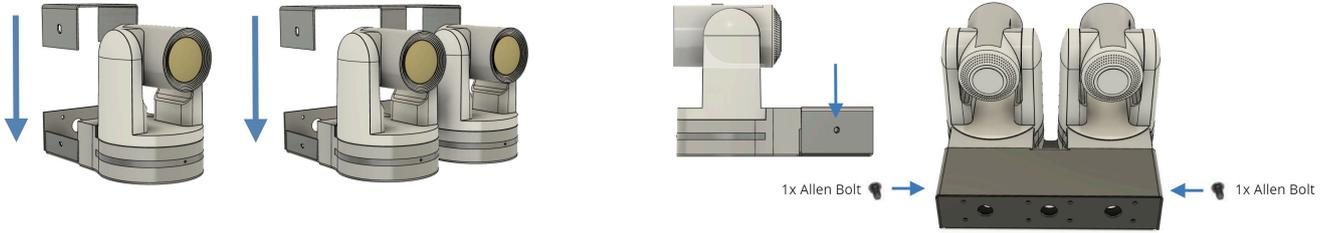

Figure 5: Cover Cap
4. Put the cable cover over the back of the bracket, neatly concealing the cables and connectors of the camera. Note that the MT220 have a bigger cover than you can see on the pictures below. The cover cap can be screwed in place using the supplied M6 Allen bolts (Figure 5) for the MT200 as well as the MT220.